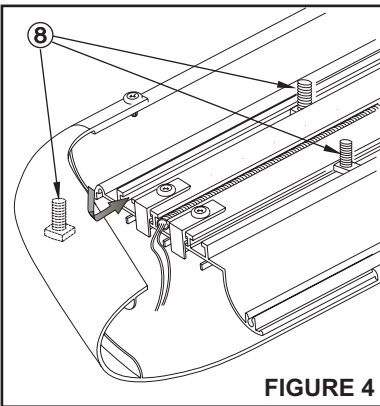

FIGURE 4
- STEP 3. Insert square head bolts as shown (3 per slot, 6 per board). See Figures 4 and 5. **NOTE:** For lighted boards, run wiring harness prior to attaching board to brackets (Refer to Step 6). See Figures 4, 5 & 8). Run longer wire harness on passenger side.